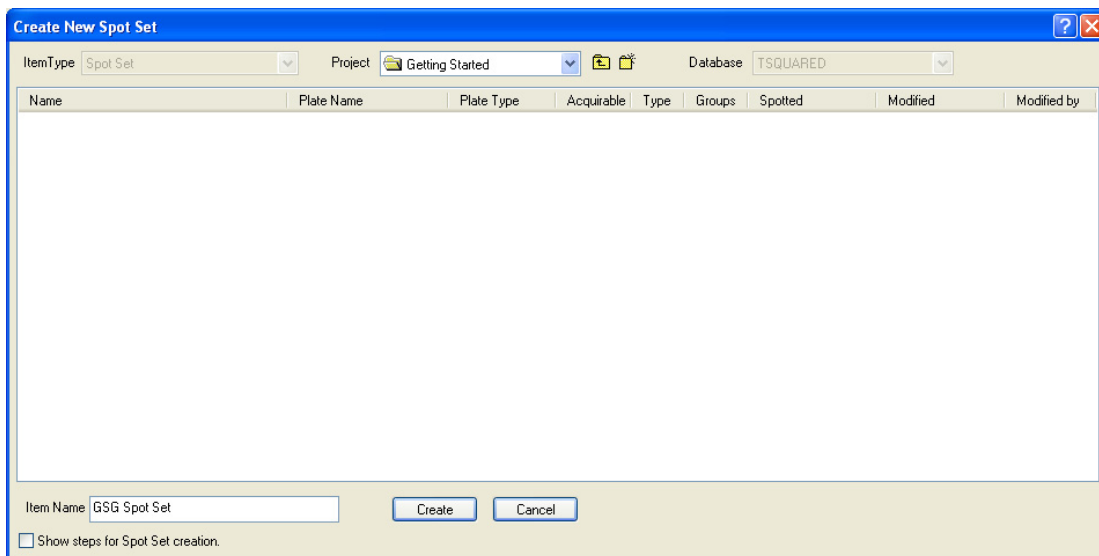

Figure 3-2 Create New Spot Set Dialog Box
1. Select **File > New > Spot Set**. The Create New Spot Set dialog box opens (Figure 3-2).